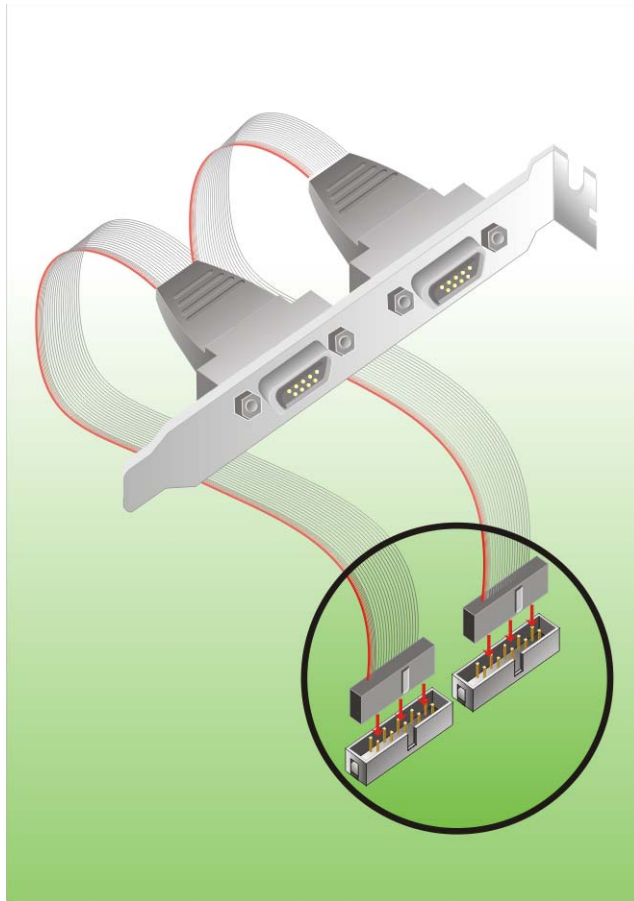

Figure 4-11: Dual RS-232 Cable Installation
Step 2: Insert the two small connectors on the cables into the serial port box headers on the CPU card (Figure 4-11).